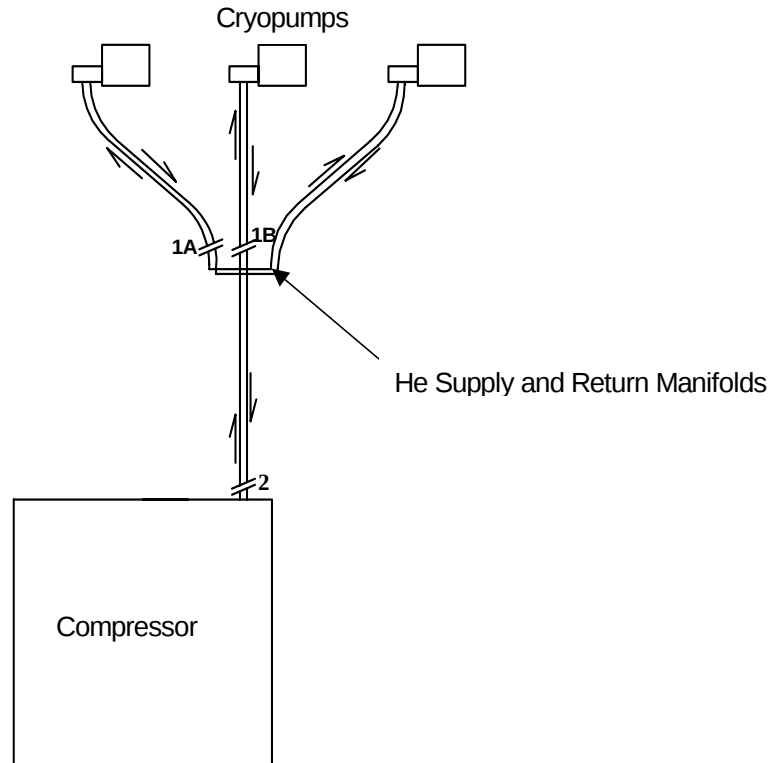

Figure 10: Pump and Purge Locations for Two- and Three-Cryopump Configurations.
1A or 1B) as shown in Figure 10. For the second cryopump, disconnect the supply and return hoses at the compressor (Point 2) as shown in Figure 10. Proceed with 6.2-6.13 for each cryopump.
- c. Three-pump per compressor configuration: Disconnect the helium supply and return hoses on the first cryopump at Point 1A, the second cryopump at Point 1B, and the third cryopump at Point 2 as shown in Figure 10. Proceed with 6.2-6.13 for each cryopump.